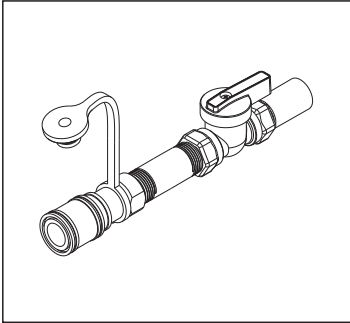

Figure 3
1. Connect the Quick Connect Adapter (**Adapter**) to House Natural Gas (NG) Piping. Make sure there is NG Shut Off Valve (**Valve**) is present (Figures 3 and 4). Make sure the Quick Connect Hose Assembly (**Hose**) is NOT connected to the **Adapter** before proceeding.